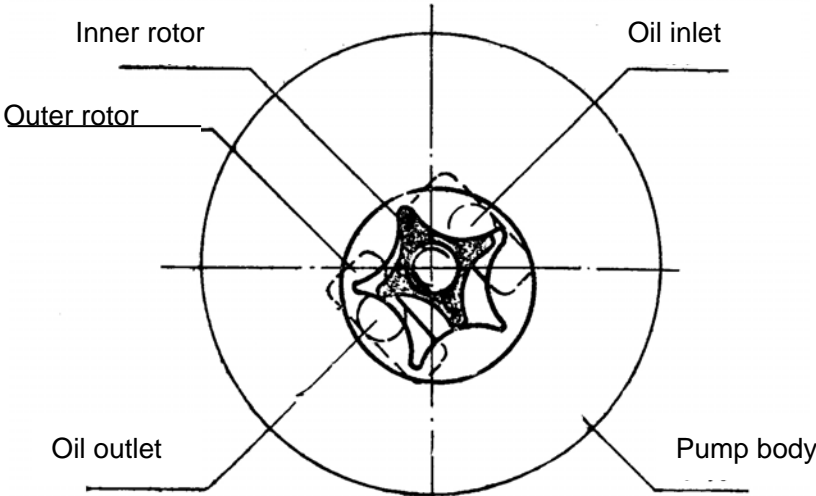
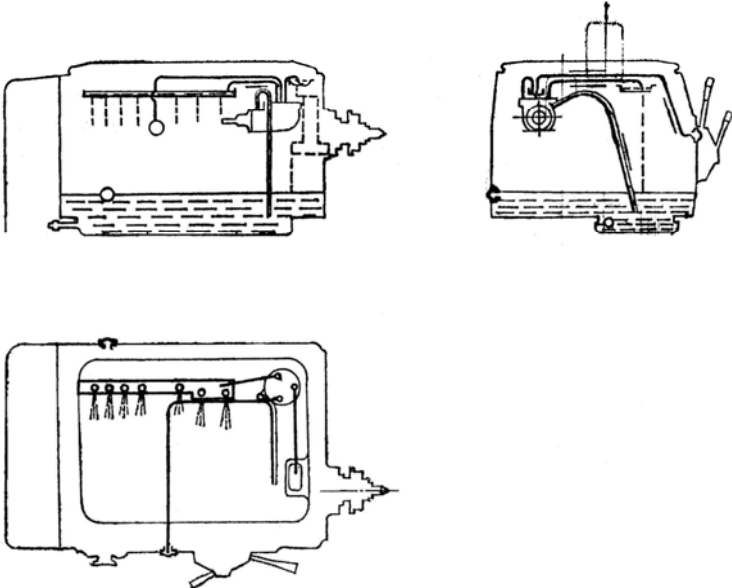

Fig 18 Diagram of oil pump working
Fig 19 Diagram of headstock lubrication
7.1 Headstock: An oil pump is driven by axle I to supply oil to the headstock case (Fig.18). The oil from the pump goes through a filter and then gets to oil pan and oil pool to lubricate gears, axes and bearings inside the headstock in circulation (Fig 19).